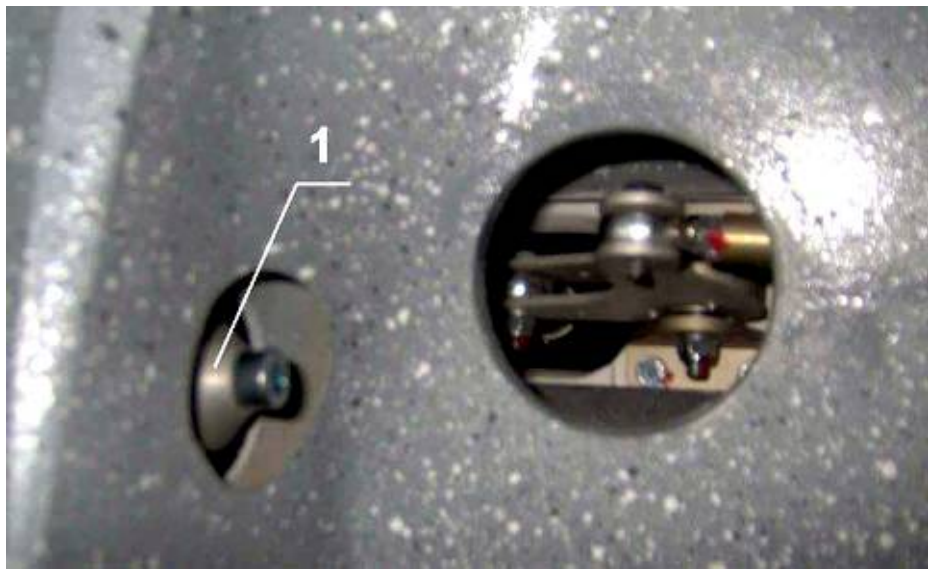

Fig. 57-00-16
16	Secure the main bolts with the cap and bolt, e.g. set the caps (1) onto the main bolts and fix them by bolts M8x35 (Fig. 57-00-16). Torque value for the main bolts is 200 lb-in / 22.5 Nm.